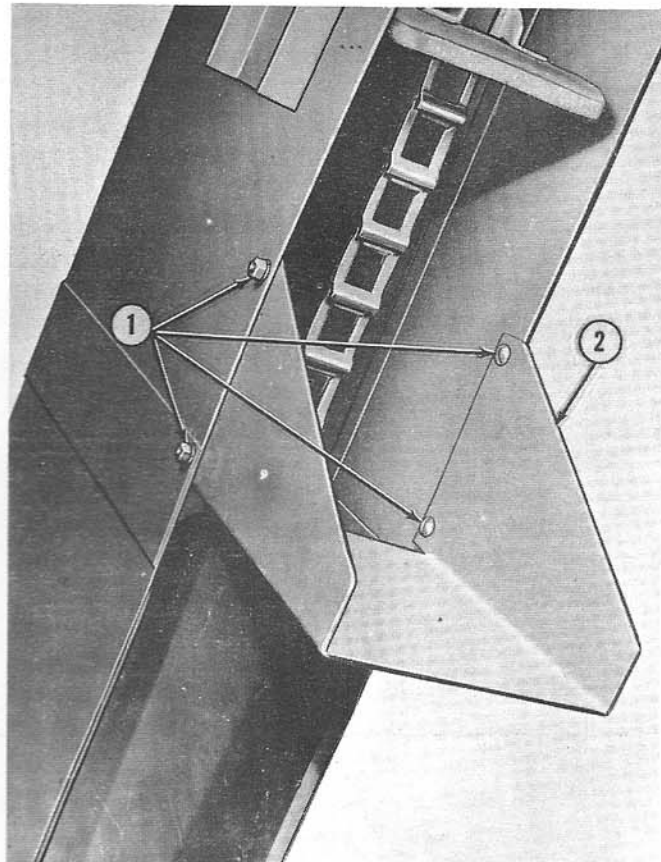

Figure 12
1. Install the discharge chute (2), Figure 12, in the top of the wagon elevator with four 1/4" x 1/2" round head screws, lock washers, and nuts (1).